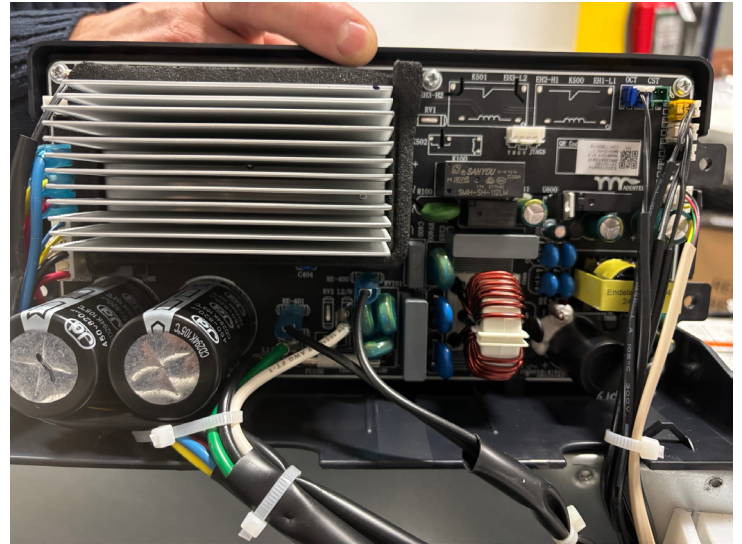

Figure 713
4. The top cover will remain attached to the PCB. Separate from the bottom tray and rotate the PCB assembly up. See Figure 713.